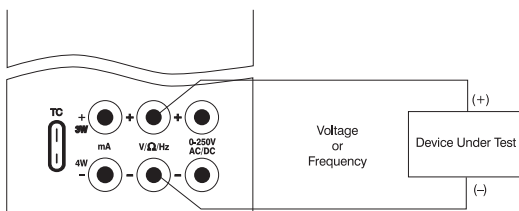

Figure 2.
2. Connect the device under test as shown in Figure 2.